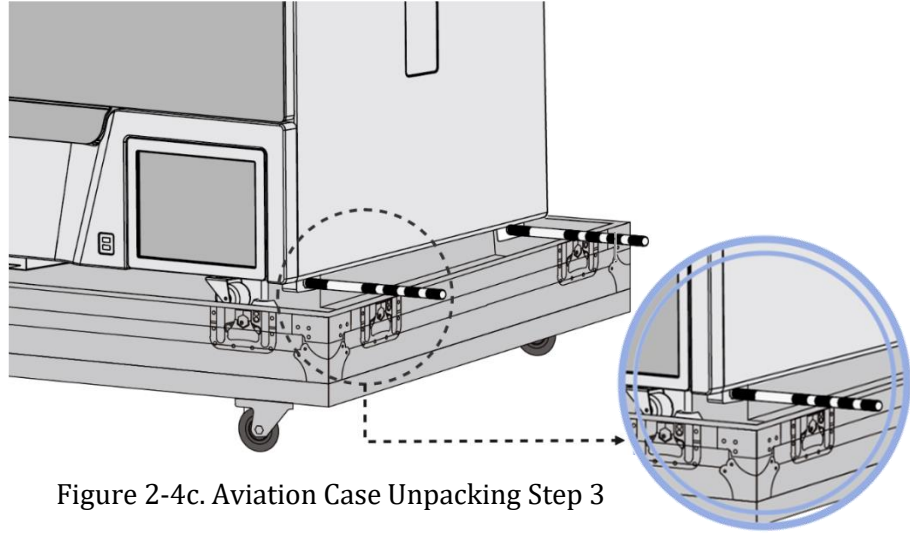

Figure 2-4c. Aviation Case Unpacking Step 3
**3rd Step:** Install four transport handles in four installation slots beside the four supporting feet, as shown in figure 2-4c. Multiple people hold the transport handles and stabilize the PANA Workstation to lift the instrument out of the aviation case and transport it